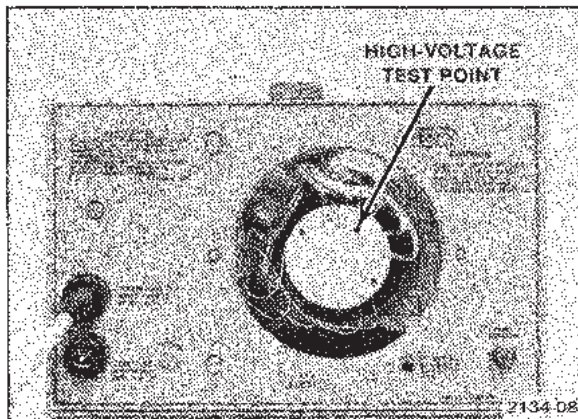

Fig. 3-2. Location of high-voltage test point.
c. Set the dc voltmeter (vom) to measure at least -4000 volts dc. Remove the insulating sleeve from the probe tip of the test lead to be used for measuring the negative voltage. Connect the voltmeter leads between a convenient chassis ground and the high-voltage test point. See Fig. 3-2 for test point location. (The high-voltage lead should be fully inserted through the crt socket cover so that the lead connects to the test point without having to hold it by hand).